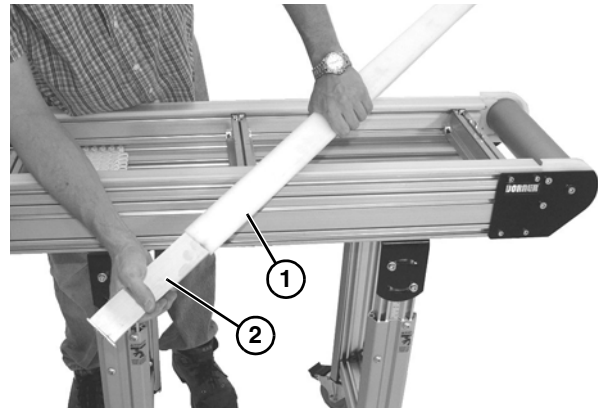

Figure 30
5. Remove the center wear strip (**Figure 30, item 1**) from the center frame channel (**Figure 30, item 2**).